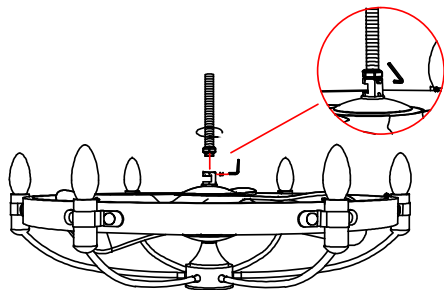

Fig. 1
Step 2. Pass the wires through the threaded tube, twist the threaded tube into the connector and tighten a screw to secure it. Remember that it needs to be reinforced from the side with screws (Fig. 1).